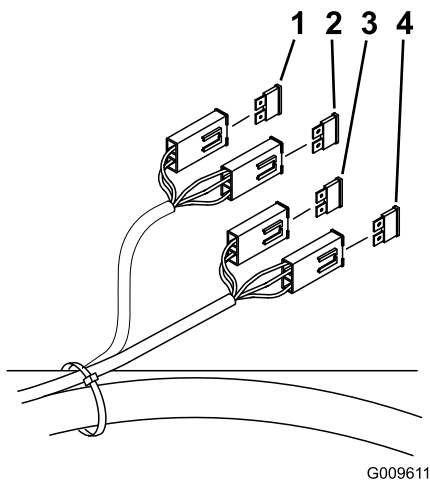

Figure 46
1. Unlatch the seat and raise the seat to gain access to fuse holder (Figure 46).
3. Install a new fuse (Figure 46).